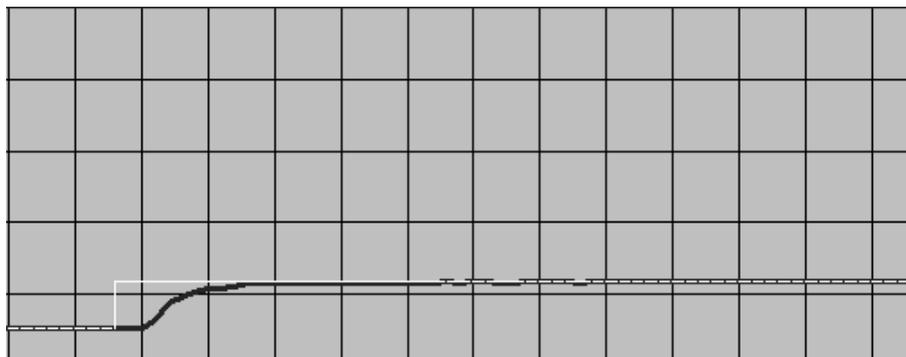

Figure 11: Effects of the Integral Term (Low Integral Term)
The action of the Integral (I) term creates a valve drive signal that is proportional to the magnitude and sign of the area under the error signal curve (error signal with respect to time). Therefore, as time passes, the integral term acts to position the valve to reduce the error signal to zero. An increase in the integration time increases the period of time over which the error signal is generated, and the system response gets slower. Figures 11 and 12 show the effect of the Integral term.